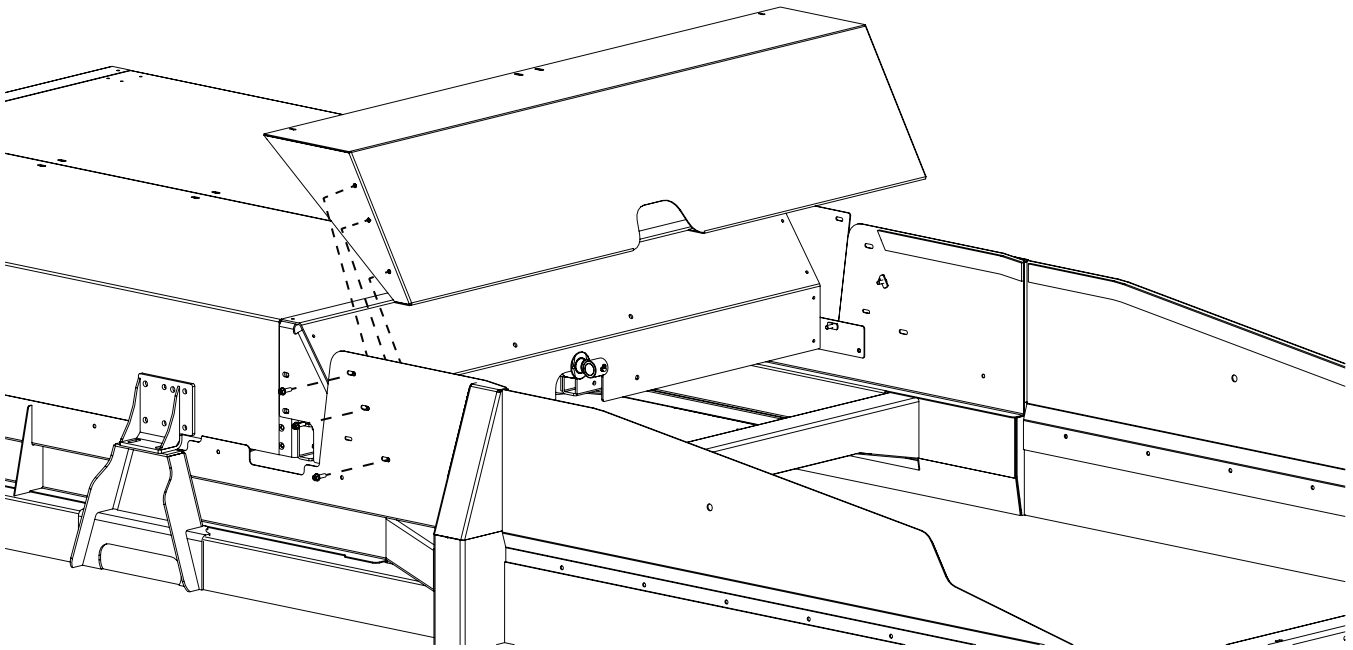

Figure 1
3. Remove and discard the existing refuse deflector and hardware (Figure 1).